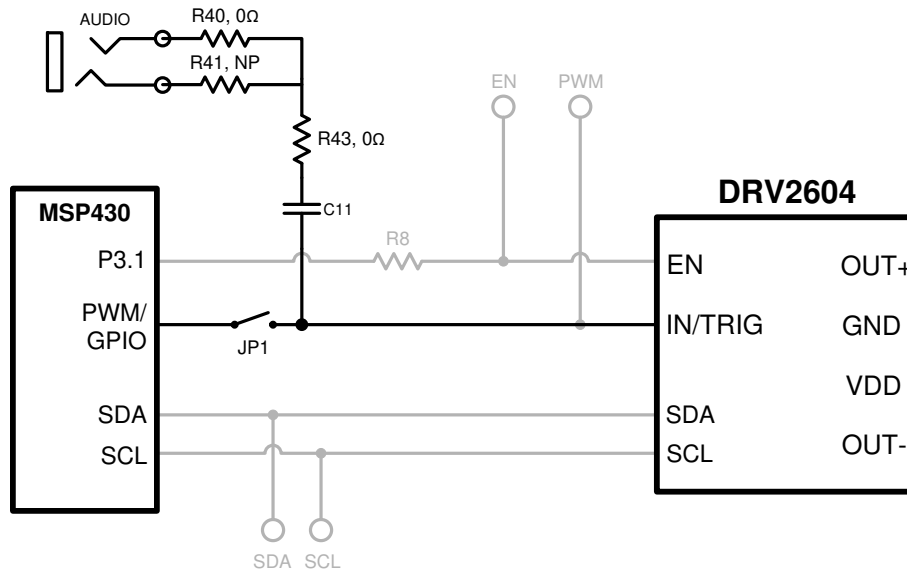

Figure 4-5. Analog Input
1. Apply an analog signal (not PWM) to the AUDIO jack on the left side of the board. The tip of the inserted male 3.5 mm jack is applied to the IN/TRIG pin of the DRV2625. See Figure 4-5.